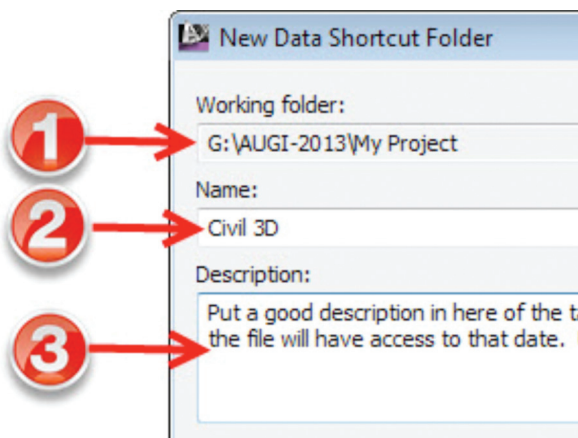
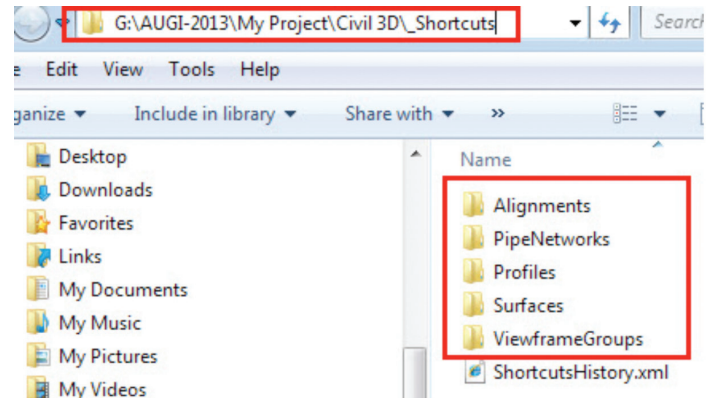

Figure 3: Shortcut data
Figure 4: New folders
This will only create a single folder under the working folder path. Make sure this is where your company wants to keep the data to help organize the information. After selecting, you will have to enter some information as shown below in Figure 3.
The name of the folder as shown in bullet item 2 in Figure 3 will be where the data shortcuts will be stored. Let's move out to Windows Explorer and see what Civil 3D has created. Notice how we have new folders as shown in Figure 4. This is where Civil 3D will store
the XML file for the data shortcuts. The XML file tells us where the drawing is and what object data we can extract. The XML file will be located within the folders shown in Figure 4.